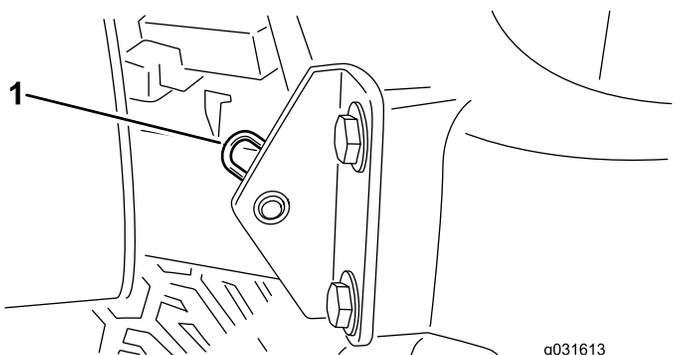

Figure 57
2. Remove the hairpin cotter securing the hood pivot to the mounting brackets (Figure 57).